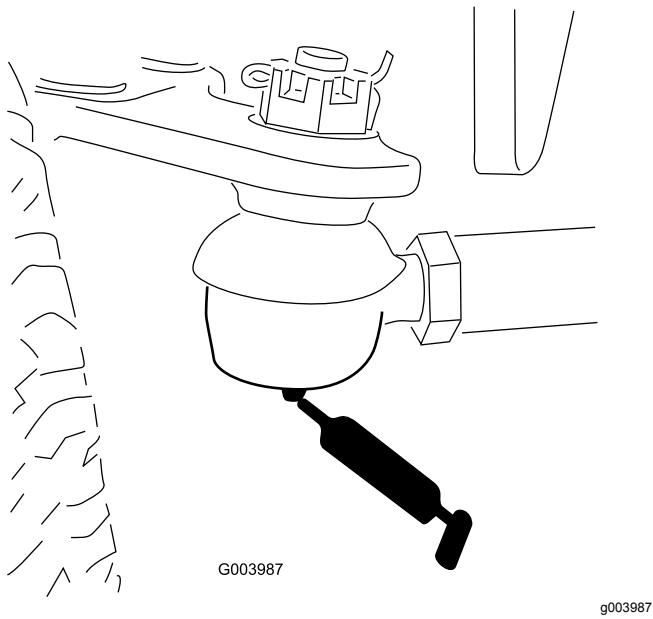

Figure 45
- Rear axle tie rod (2) (Figure 45)